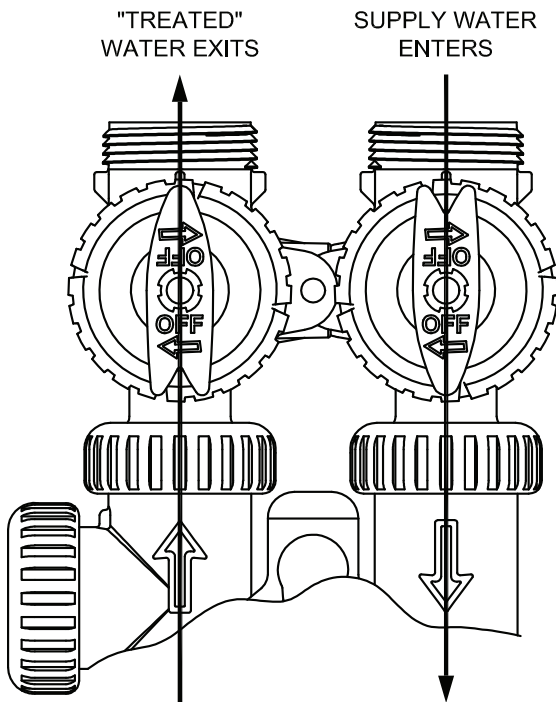

Figure 2
- 2. Bypass Position:** The inlet and outlet handles point to the center of the bypass, the control valve is isolated from the water pressure contained in the plumbing system. Untreated water is supplied to the plumbing system. (See Figure 2)